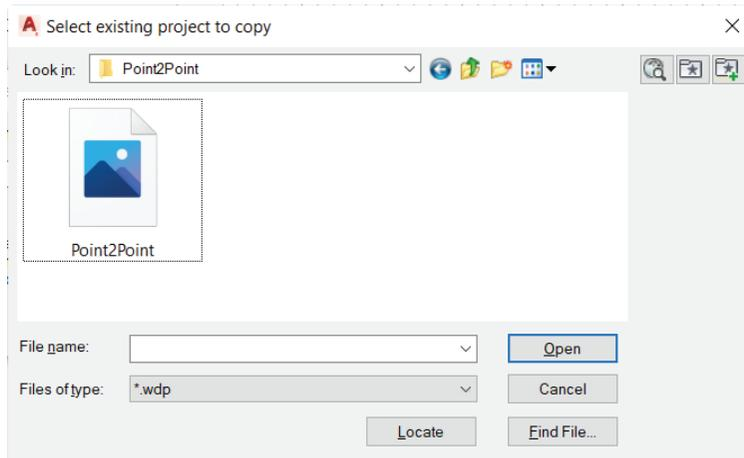

Figure 2-72 The Select existing project to copy dialog box
- Choose **Browse** from this dialog box; the **Select existing project to copy** dialog box is displayed. In this dialog box, select the `c:\Users\User Name\Documents\AcadE 2021\AeData\proj\` folder and then double-click on the **Point2Point** folder and then select **Point2Point.wdp** file displayed, refer to Figure 2-72. Next, choose the **Open** button; path of the *Point2Point.wdp* file is displayed in the edit box of the **Copy Project: Step 1 - Select Existing Project to Copy** dialog box.